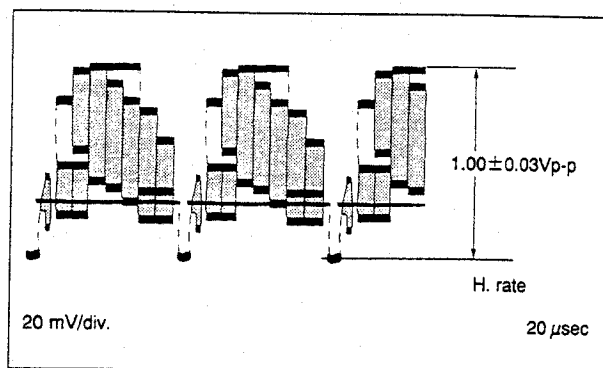

Fig.3-4-6 PB Y level
- (1) Connect an oscilloscope to TP3.
- (2) Set EVR mode by pressing "K" button of the presetting unit more than 2 seconds.
- (3) Set "A : 11" pressing 1 numeric key twice of the remote controller.
- (4) Playback the color bar signal of the alignment tape. (MH-2H and MHVE-2)
- (5) Adjust TV PROG "-" or "+" button for 1.00 ± 0.03 Vp-p as shown in Fig.3-4-6.
- (6) Set normal VCR mode by pressing "K" button of the pre-setting unit again so adjustment data is memorized.